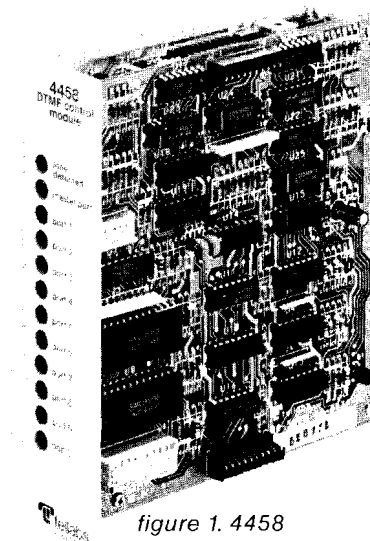

figure 1. 4458
1.01 The 4458 DTMF Control Module (figure 1) is designed specifically for remote testing of the Tellabs 244 Distributive Data Bridge (DDB) System and associated 4wire transmission facilities when the 244 System is installed in the Issue 2 Tellabs 24X or 24X L1 Mounting Assembly. Testing is initiated by transmitting a sequence of three DTMF tones to either the common (master) port of the bridge or to the input of the mounting assembly's integral test access bus (TAB). Upon receipt of these tones, the 4458, from its location in the assembly's rightmost module position, activates the transfer relay on a bridge module in one of the assembly's 11 leftmost module positions, as selected by a specific DTMF tone sequence. This causes one individual port of the bridge network—specifically, the selected bridge module and/or the facility (bridge leg) terminated on that module—to be isolated (disconnected from the bridge) for loop-back and other tests. The port is reconnected to the bridge, again by transmitting a sequence of three DTMF tones, when testing and any necessary maintenance or repairs are completed. As an alternative to isolating either the common port or one particular multiple (slave) port of a bridge individually, all multiple ports of a bridge can, if desired, be isolated simultaneously by transmitting the proper DTMF tone sequence.